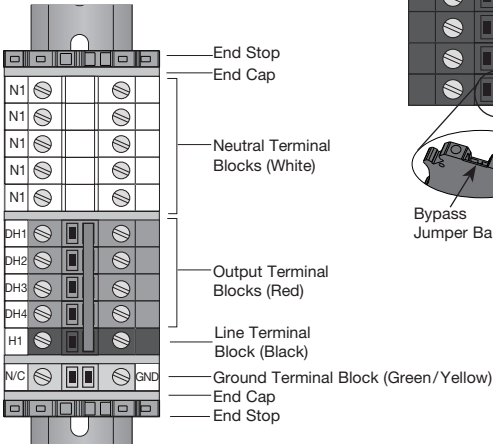

Figure 2
3. Install terminal kit. Components provided with PDT-T-DV-MF are shown in Figure 2. To properly install the kit, first remove the pre-installed bypass jumper from the red and black terminal blocks using the removal tool provided with the panel (Figure 3a). Remove upper end stop and labels from the dimmed line/hot (red) terminal blocks. The line/hot label will need to be broken from the strip and replaced (Figure 3b). Move the neutral terminal blocks (white) and separate the dimmed line/hot terminal blocks (Figure 3c). Install the provided kit as shown in Figure 4. Ensure the bypass jumper barrier in center of terminal block is oriented toward the bottom of the panel